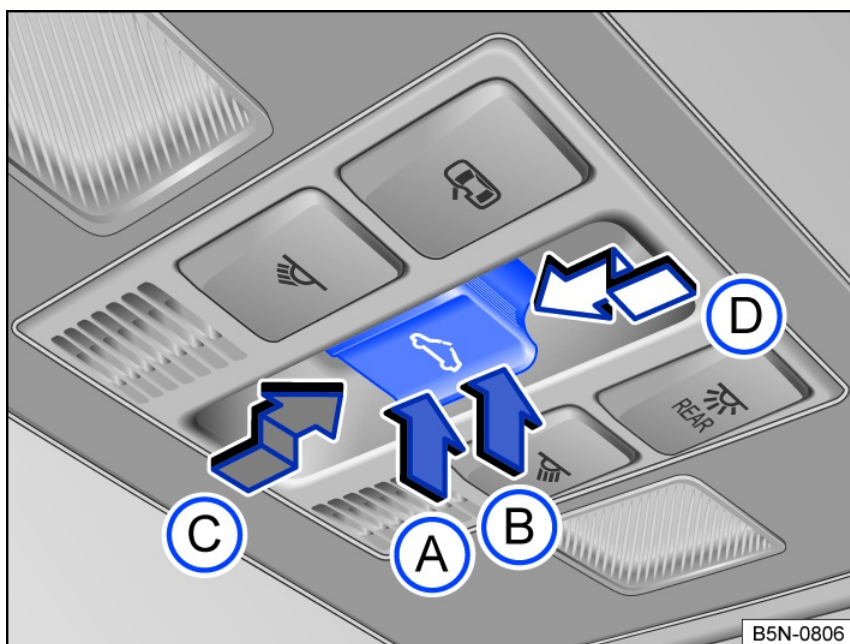

Fig. 68 In the headliner: sunroof button.
- Manual process: Press the fig. 68  button to the first level.